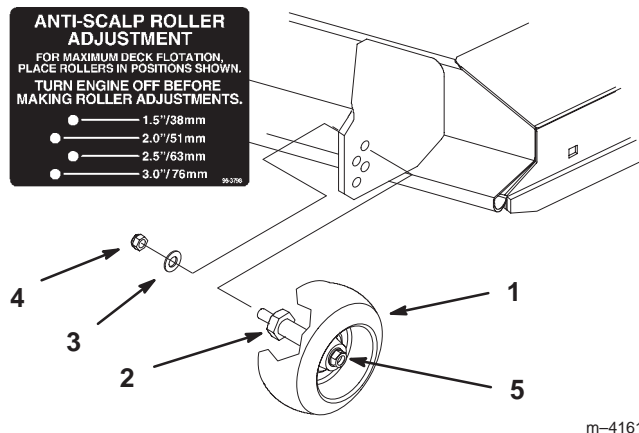

Figure 23
2. After adjusting height-of-cut remove flange nut and spring disk while holding stud with wrench (Fig. 23).
Note: Do not remove the wheel nut and washer (Fig. 23).
3. Select hole so gage wheel is positioned to the nearest corresponding height-of-cut desired (Fig. 23).
4. Reinstall the flange nut and spring disk. Torque to 40–45 ft–lb (54–61 N•m) (Fig. 23).